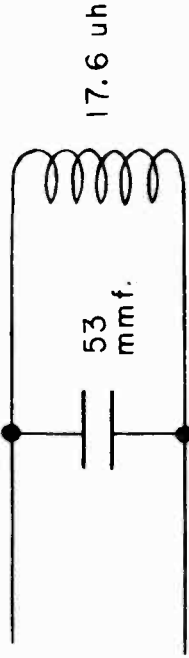

Fig. 1
6. Loop antenna must remain connected at all times or replaced by dummy antenna consisting of a coil with 17.6 uH inductance shunted with a 53 mmf. condenser. See Fig. 1.